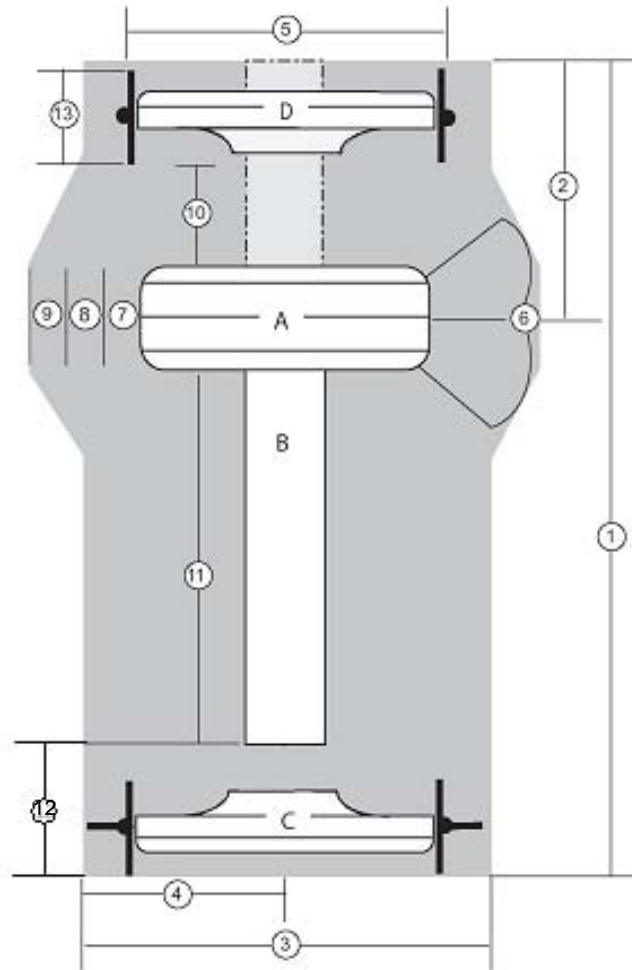
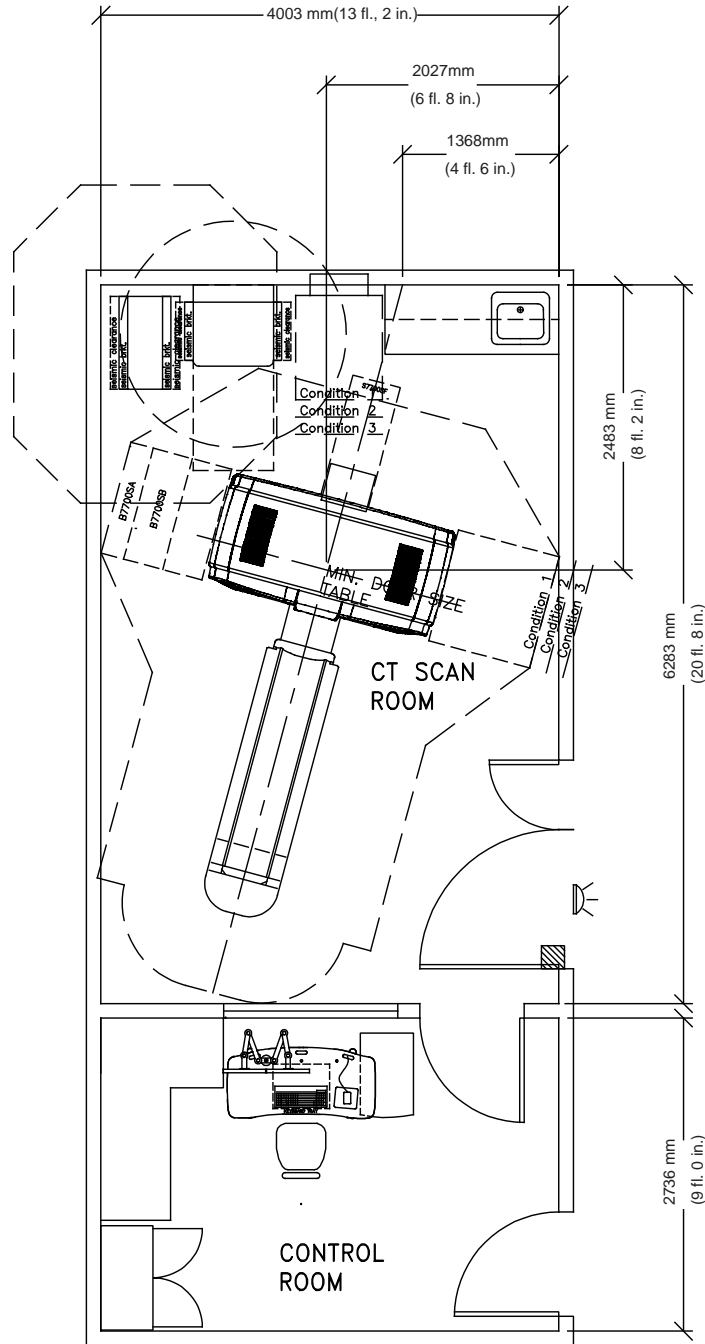
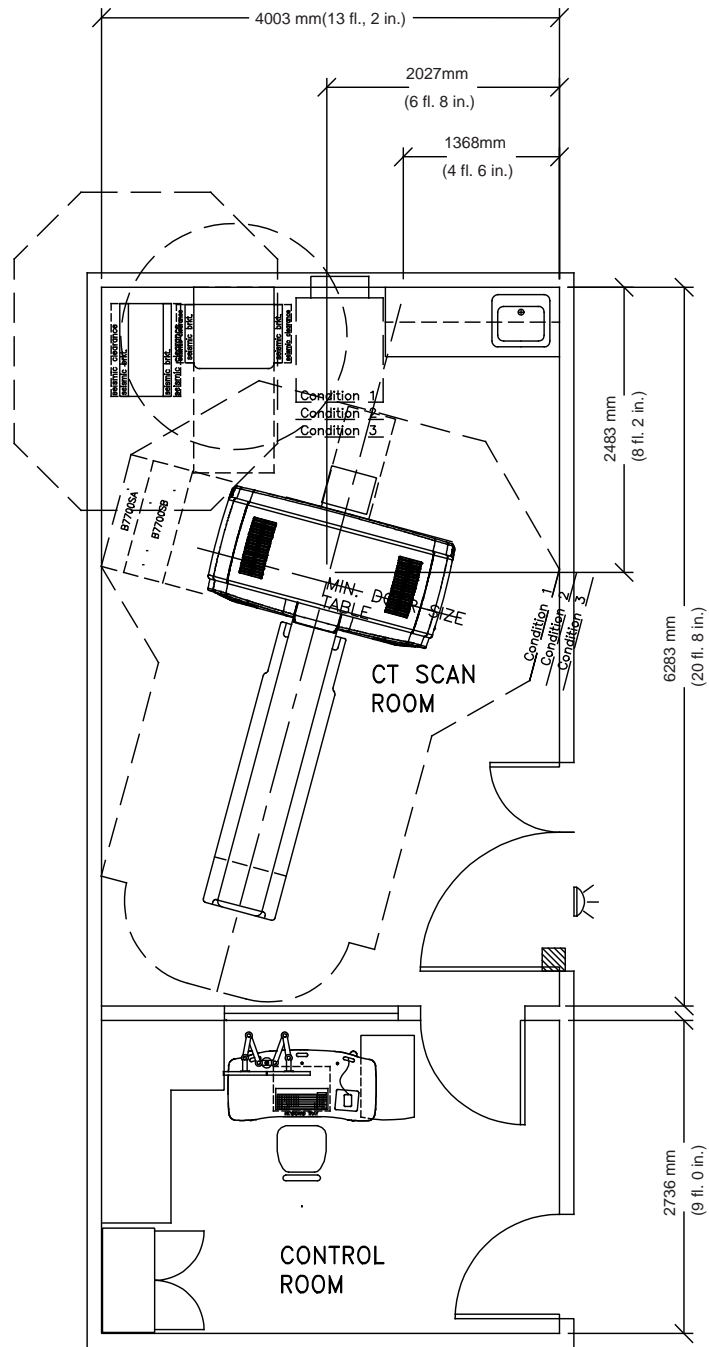
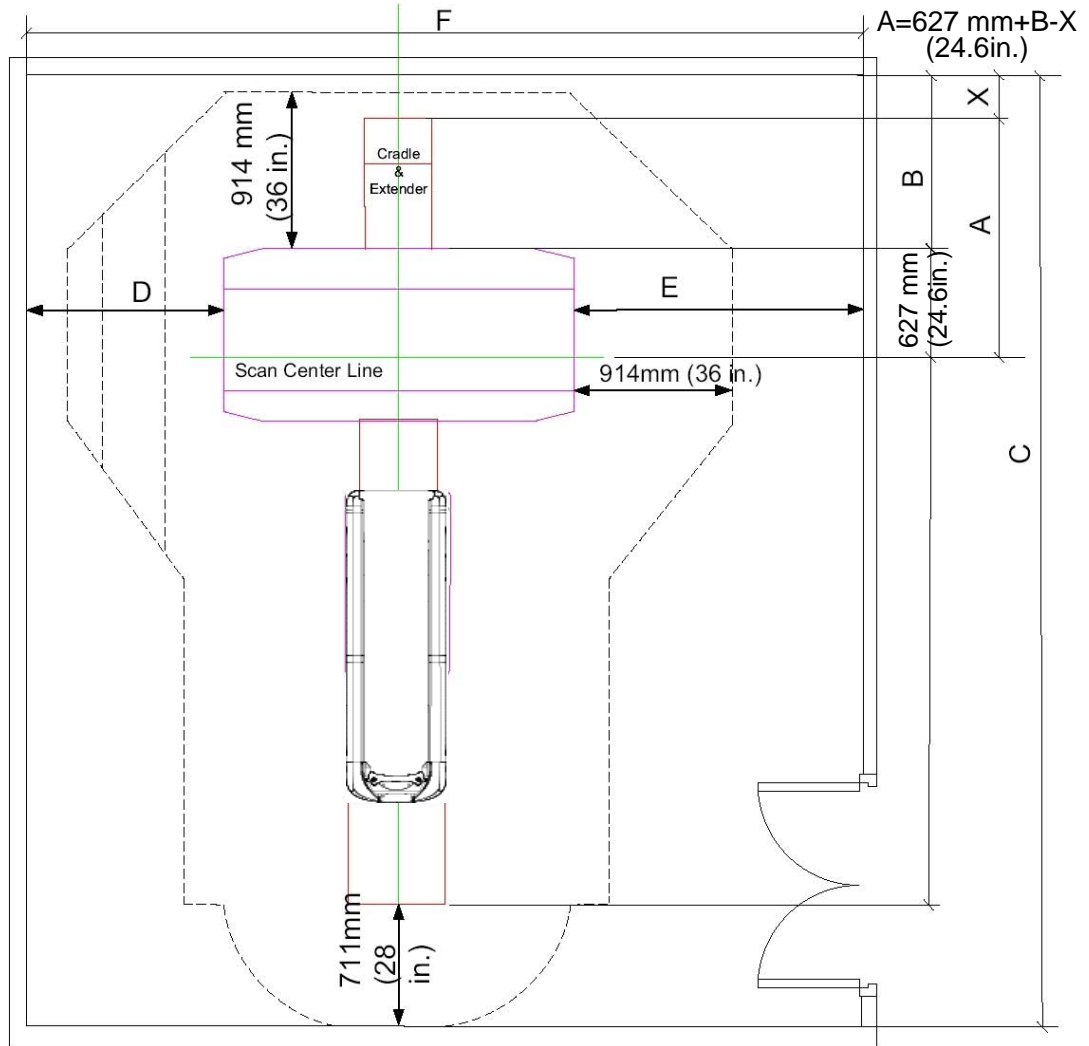

Figure 5-1 Minimum Service Clearances
Figure 6-1 Suggested / Typical Room Size for Optima CT 660 w/ GT1700V Table
Figure 6-2 Suggested / Typical Room Size for Optima CT 660 w/ Lite Table
Figure 6-5 Short Footprint Calculation diagram
Note: A similar map of detailed dimensional clearance measurements necessary for safe servicing of the system is provided in Figure 5-1, on page 47.
- Sufficient space to remove the covers Figure 5-1.
Note: When calculating service clearances, refer to Figure 5-1 for all service clearance needs.
- Gantry front cover removal requires the use of the Tilting Cover Dollies and a minimum clearance space of 2830 mm (112 in.) to maneuver the cover, as illustrated in Figure 5-1. The dollies allow the service engineer to separate the cover from the gantry, tilt it 90 degrees, roll it to the foot end of the table, and then tilt it an additional 90 degrees, so that it is upside-down relative to its normal system-mounted condition. After removal, the service engineer must then move the gantry front cover to a position that satisfies the minimum regulatory clearances.
- The gantry rear cover, with service dollies installed, requires a clearance width of 2006 mm (79 in.) and a depth of 914 mm (36 in.) for removal, as shown in Figure 6-2. Sufficient space to allow the service engineer to move the cover either straight back or to one side of the table to satisfy the minimum service clearances shown in Figure 5-1 must be maintained. The rear cover with dollies cannot extend past the allowable clearance space within the room (see Figure 5-1). If the system is not sited straight (it is positioned diagonally), full service space is still required. The PMI and customer should discuss this consideration and make the necessary provisions.
See Figure 6-5 for a typical control room layout.
Figure 6-1 and Figure 6-2 show the recommended and typical room layouts. You need to know the locations for medical gas, surface duct work, or other items that make a grounded wall.
Note: Your room layout may meet the recommended or typical room requirements but appear different than Figure 6-2 or Figure 6-5. Your salesperson can provide a detailed room layout for your site.
- 1.) Refer to Figure 6-5, use floor template with ruler to prearrange the layout and calculate the cradle scannable limitation (A).
- 3.) Record the distance from cradle limitation to wall (X) and cradle scannable limitation (A) for installation.